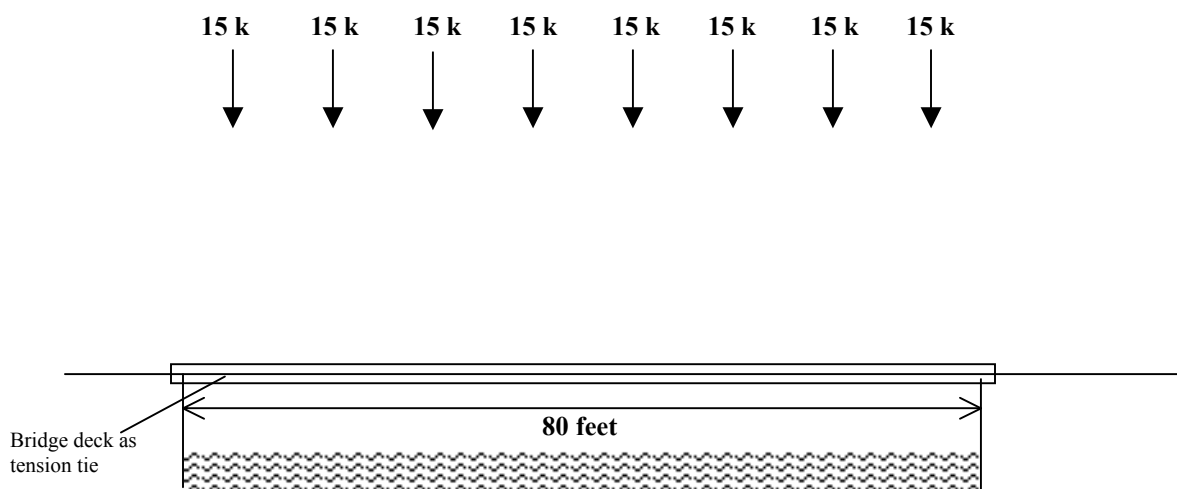

Figure 2
b) On a separate piece of paper, draw the load line for the problem using the loads given in Figure 2. (Again, you should choose a convenient scale.)
c) Using graphic statics, propose an arch design with a maximum compression force of 120 kips. Sketch your solution on Figure 2.